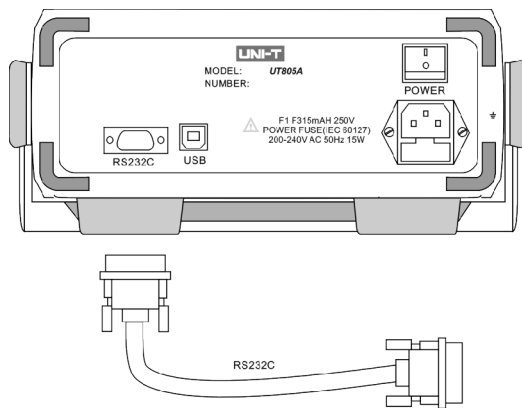

Figure 15
1. Connection of instrument and computer (See Figure 15)